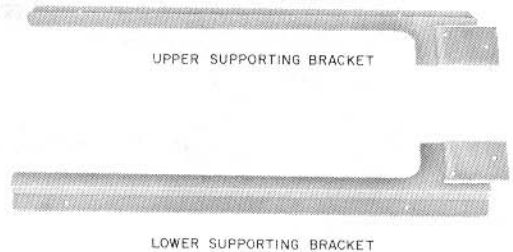

Fig. 26—D-179860 Kit
5.06 The D-179860 kit (Fig. 26), designed to fit over the upper and lower edge of an ED-69368-50, Group 1 backboard, consists of two light olive gray finished, Z-shaped, 1/6-inch steel supporting brackets, and four No. 14 RHW screws. Four holes and a slot are provided in each bracket for fastening to the backboard and wall surface. These brackets may be used, as desired locally, to strengthen or reinforce existing or new backboard installations.